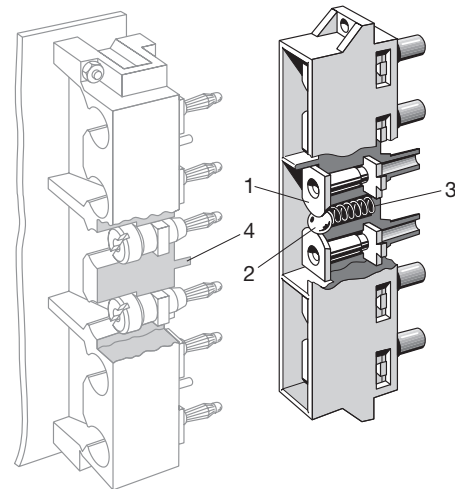

Fig. 7. 6-pin edge connector.
The 6-pin connector (Fig. 7) is used for heavy current inputs. When the module is withdrawn, the metal ball (2) is pressed by the spring (3) against the two sockets (1) to short-circuit the external current circuit. When the module is plugged in, the tongue (4) pushes the ball (2) away from the two sockets (1), thus permitting the impressed current of the external circuit to flow through the module. The mechanism is designed such that when withdrawing the module, the sockets are short-circuited before the pins and sockets separate. Similarly when inserting the module, the pins and sockets make before the short-circuit is opened. This ensures that at no time are the secondaries of current transformers open-circuited. The maximum thermal ratings of the shorting links are 12 A continuous, 65 A for 10 s and 200 A for 1 s. With the module inserted, i.e. in normal operation, the maximum ratings are determined by the ratings of the individual transducers.